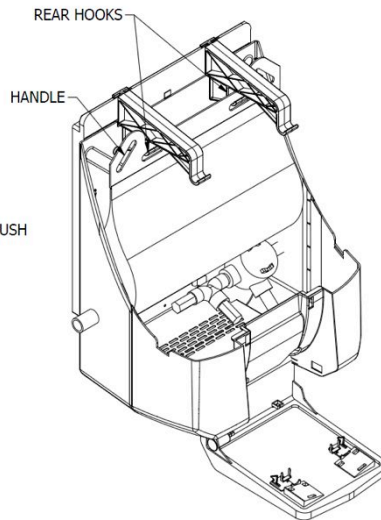

FIGURE 9
- A. Lift first Cartridge by handle provided and place on rear hooks of Hanger Bracket (Ref Figure 9).